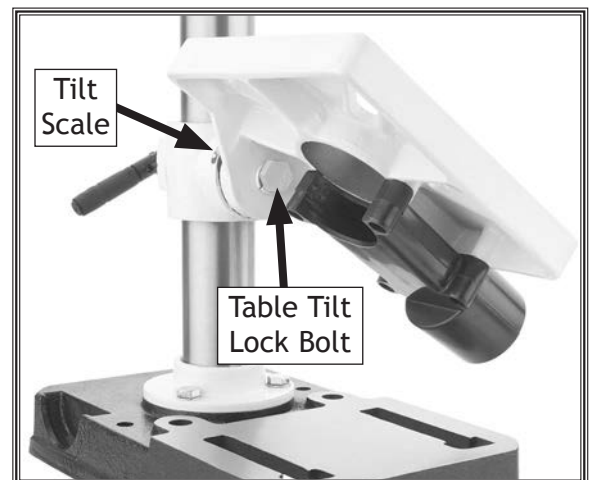

Figure 22. Location of table tilt lock bolt and tilt scale.
4. Loosen table tilt lock bolt and use tilt scale to tilt table to desired drilling or sanding angle (see Figure 22).